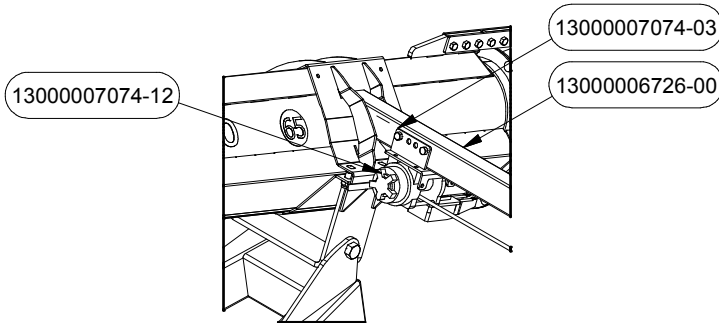

FIGURE 4
- Attach the Winch PN# 7074-12 and Winch Bracket PN# 7074-03 to the Support Arm. Using Hex Bolts c/w Nylock Nuts. Fasteners can be found in Bolt Bag PN# 6795. Parts and Bolt Bag can be found in Electric Winch Hardware Box PN# 7074 and Frame Hardware Box PN# 7251 (see Figure 4).